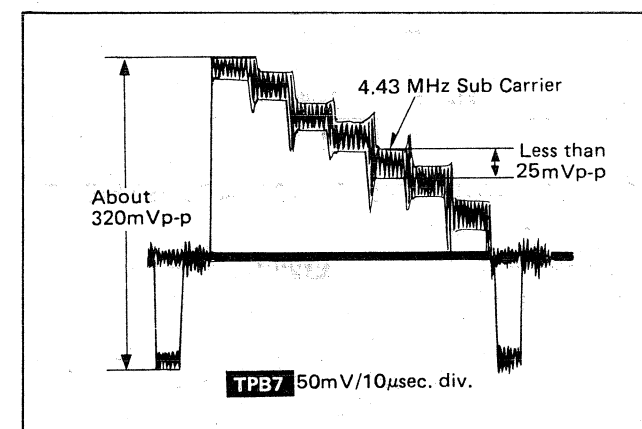

Fig. 2
4. Adjust L5004 to set 4.43 MHz sub carrier at the minimum amplitude as shown in Fig. 2.
5. Confirm that 4.43 MHz sub carrier portion of the magenta is less than 25mVp-p as shown in Fig. 2.